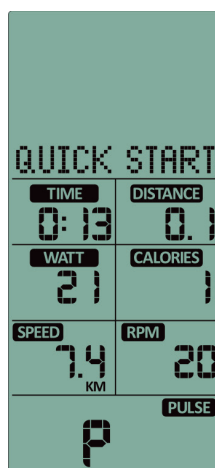

Figure 25
- B. The HEART RATE symbol lights up. When there is a heartbeat input, the heartbeat symbol flashes and the current heart rate is displayed; when there is no heartbeat input, 'P' is displayed (Figure 25).